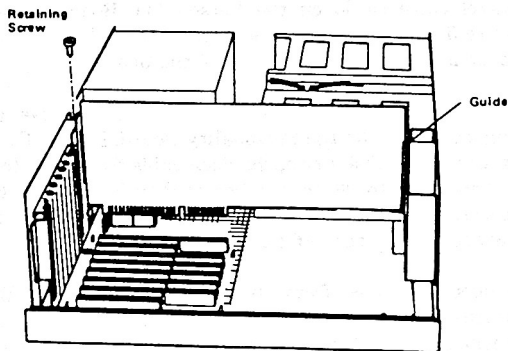

Figure 2
5. Remove the retaining screw and plate from slot 8, as shown in Figure 2. The plate can be discarded, but keep the screw as this is needed for securing the board.
6. Slide the board into position making sure that the edge connector on the board fully engages into the connector in the base of the PC. Secure the board with the screw that was removed in Step 5, see Figure 2.